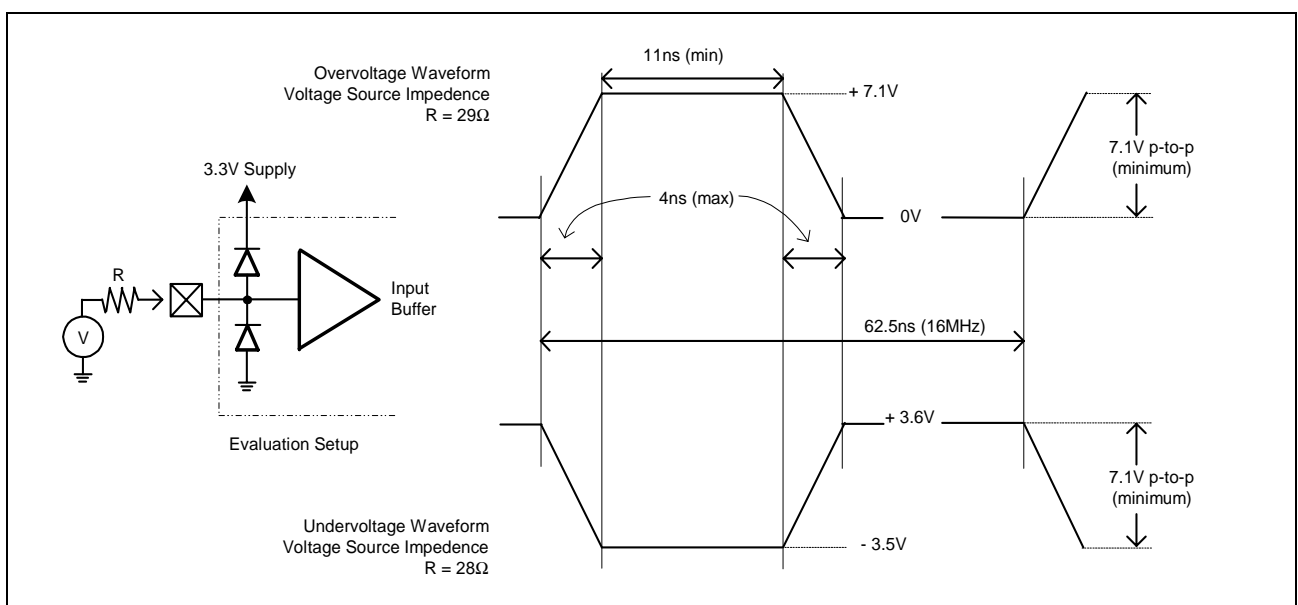

Figure 40 Maximum AC Waveforms for 3.3V Signaling
3) Maximum current requirements must be met as drivers pull beyond the first step voltage. Equations defining these maximums (1 and 2) are provided with the respective diagrams in Figure 40. The equation-defined maximums should be met by design. In order to facilitate testing, a maximum current test point is defined for each side of the output driver.